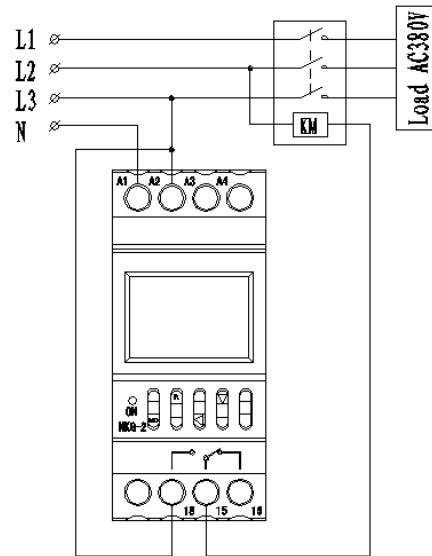

Figure 5 Three-phase controlled wiring diagram (380V for contactor coil)
- The coil voltage of the controlled contactor is AC 380V 50Hz, so its wiring method sees Figure 5.